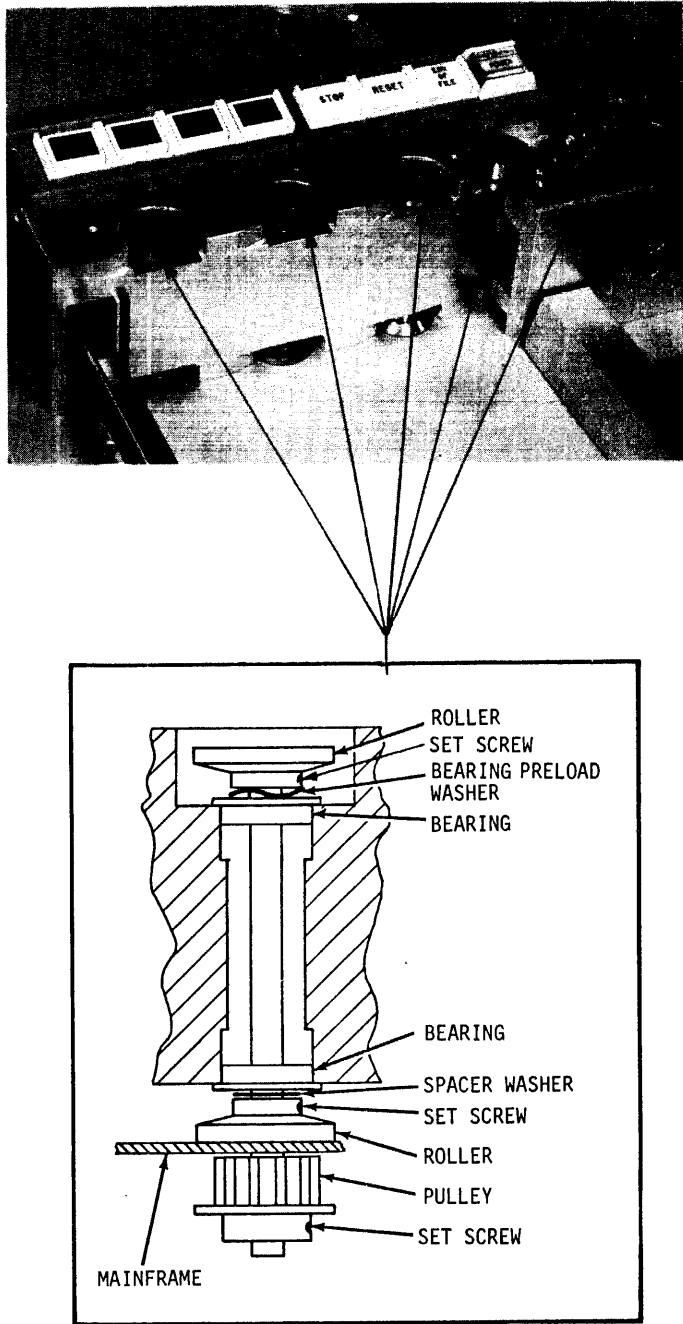

Figure 9-7. Stacker Roller Bearing Assembly
- b) Lift stacker shaft straight up and out of stacker casting. Observe that there is a preload washer between the top roller and the bearing seat, figure 9-7.